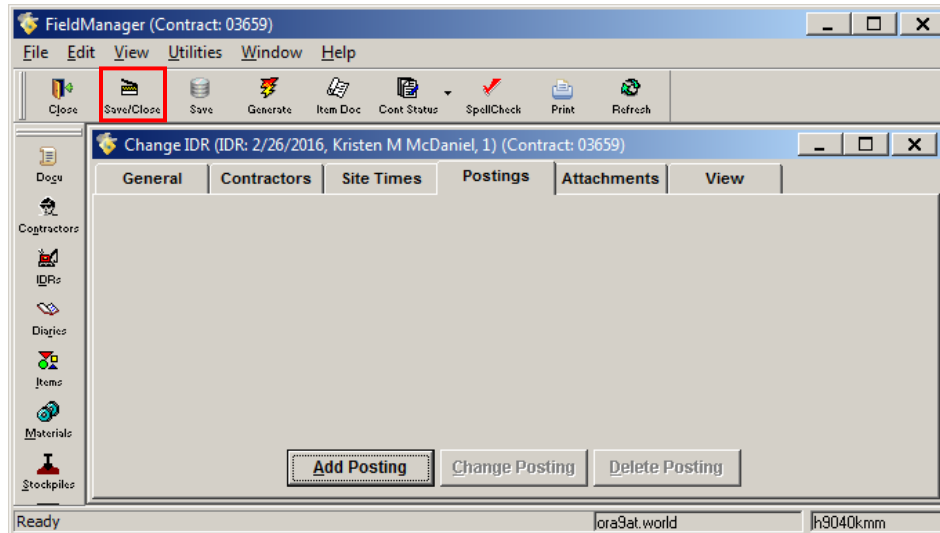

Figure 7-15. Change IDR Window – Postings Tab
- Click **Save/Close** on the Window Toolbar (Figure 7-15).